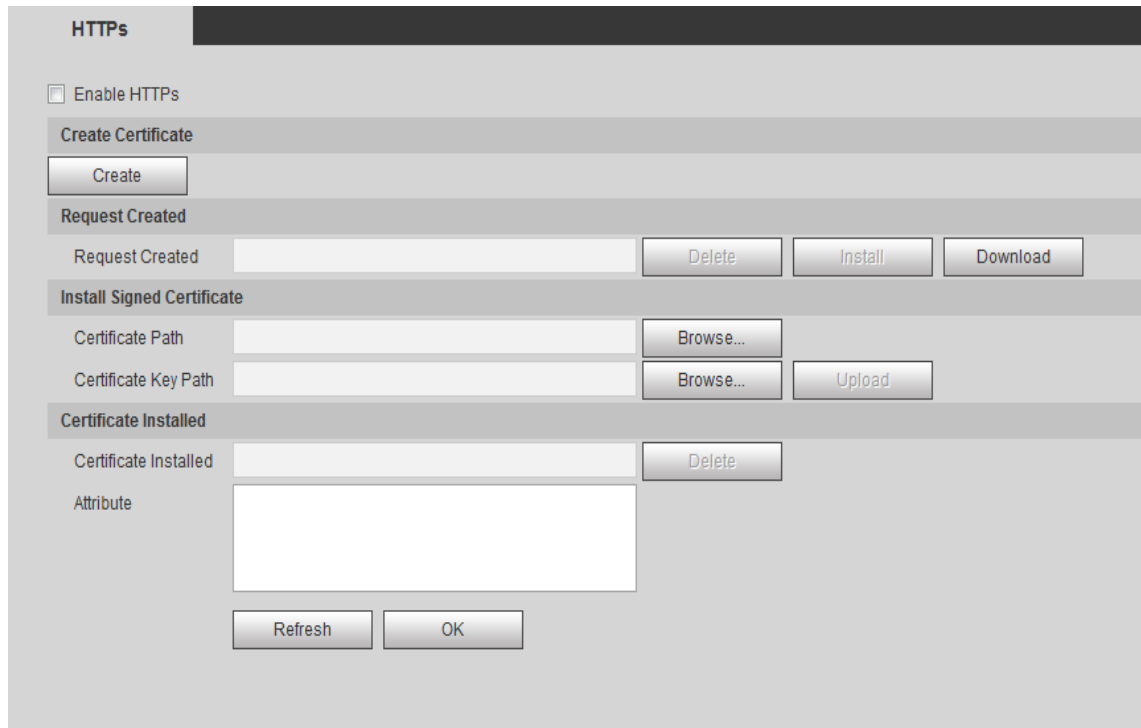

Figure 6-67
Step 1. Select Setting>Network>HTTPs, see Figure 6-67.